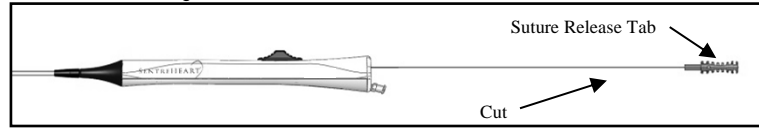

Figure 5 Suture Cutting
- Cut the excess Suture at the Suture Release Tab to allow for the LARIAT RS to be removed. See Figure 5.